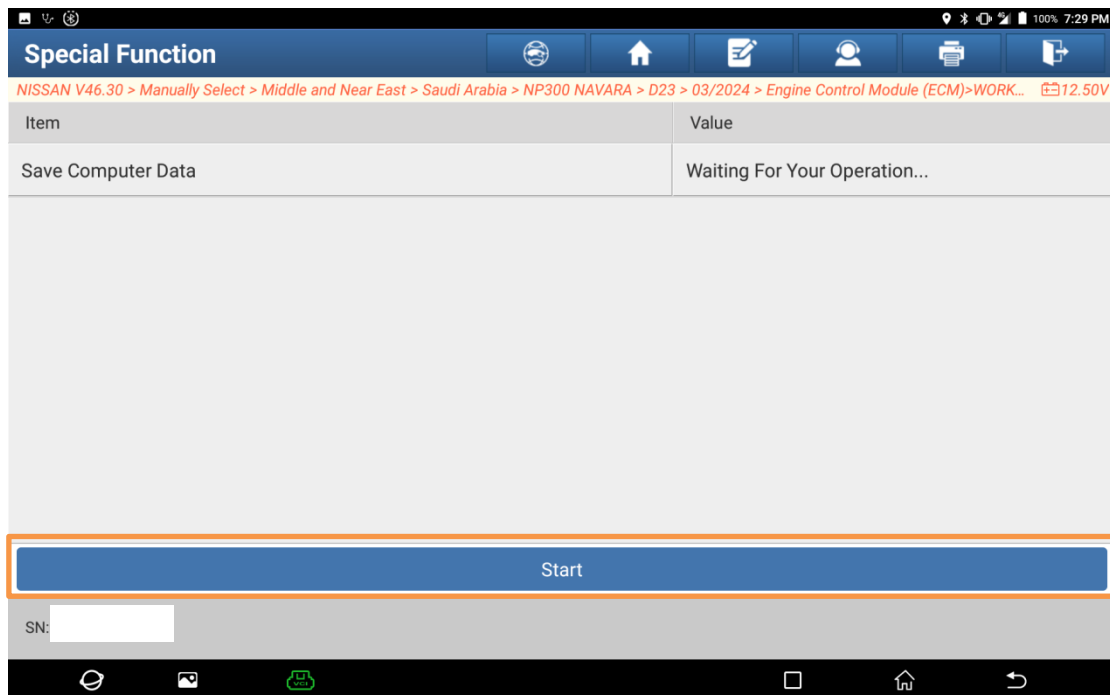

Figure 15
9. Click the "Start" button (Figure 15) to execute the "Save Computer Data" function.